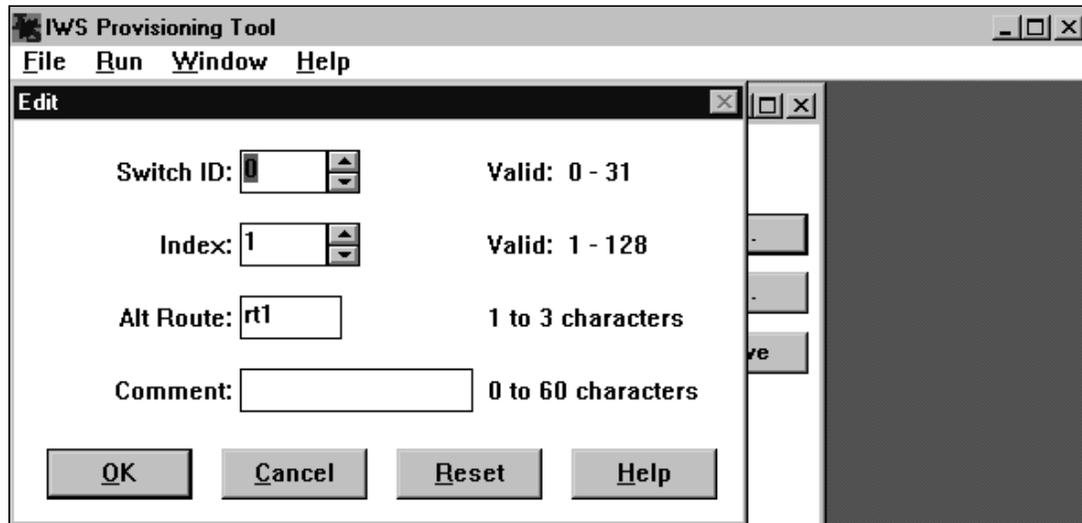

FIGURE 112. Example of Edit dialog for a table file
5. To customize the datafill, select the line you wish to change. For example, select the line that contains Switch ID as 0, Index as 1, Alt Rte as rt1. Then select Edit to open the Edit dialog box. (See Figure 112.)